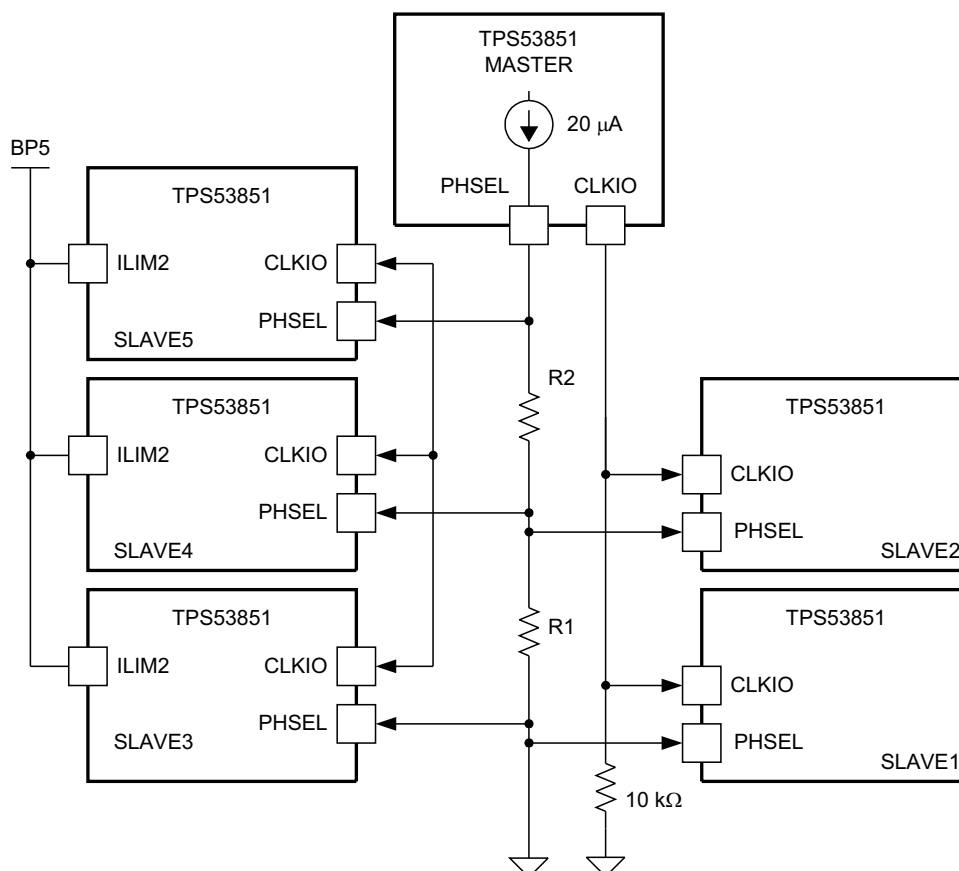
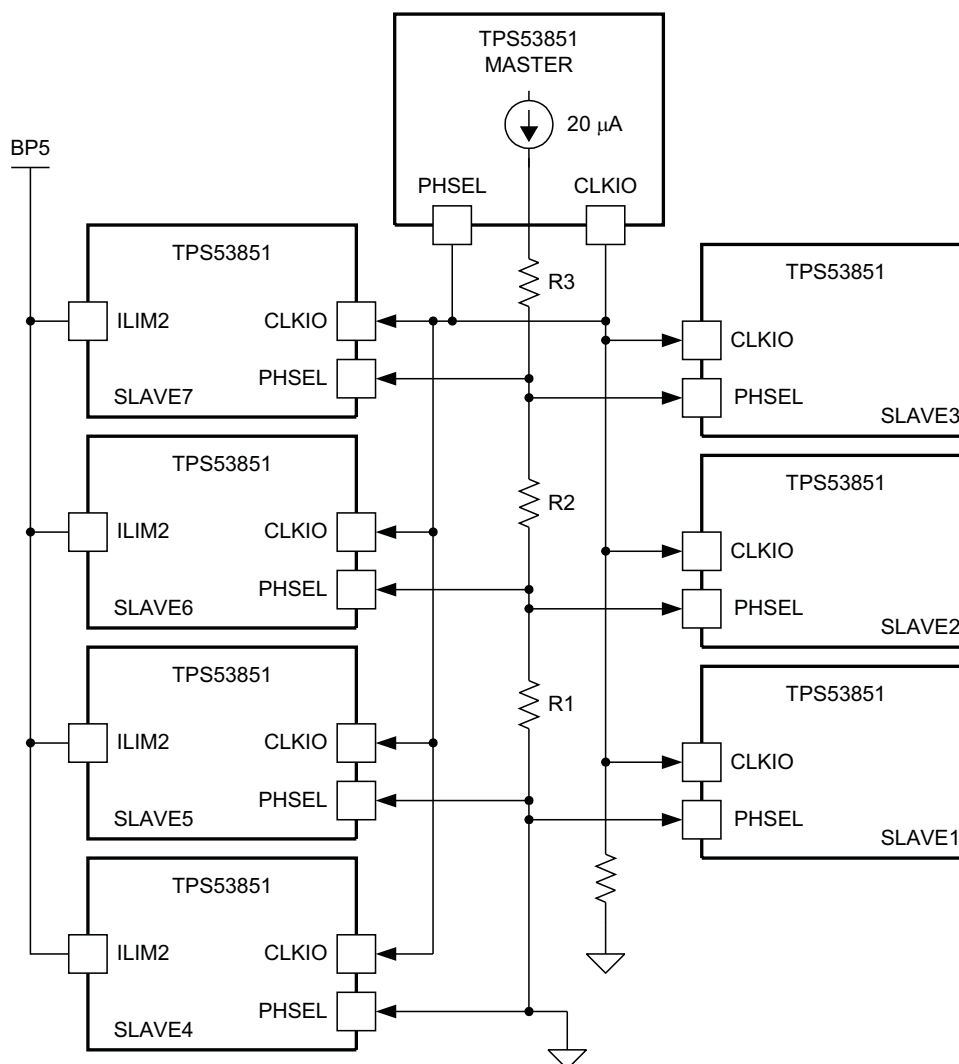
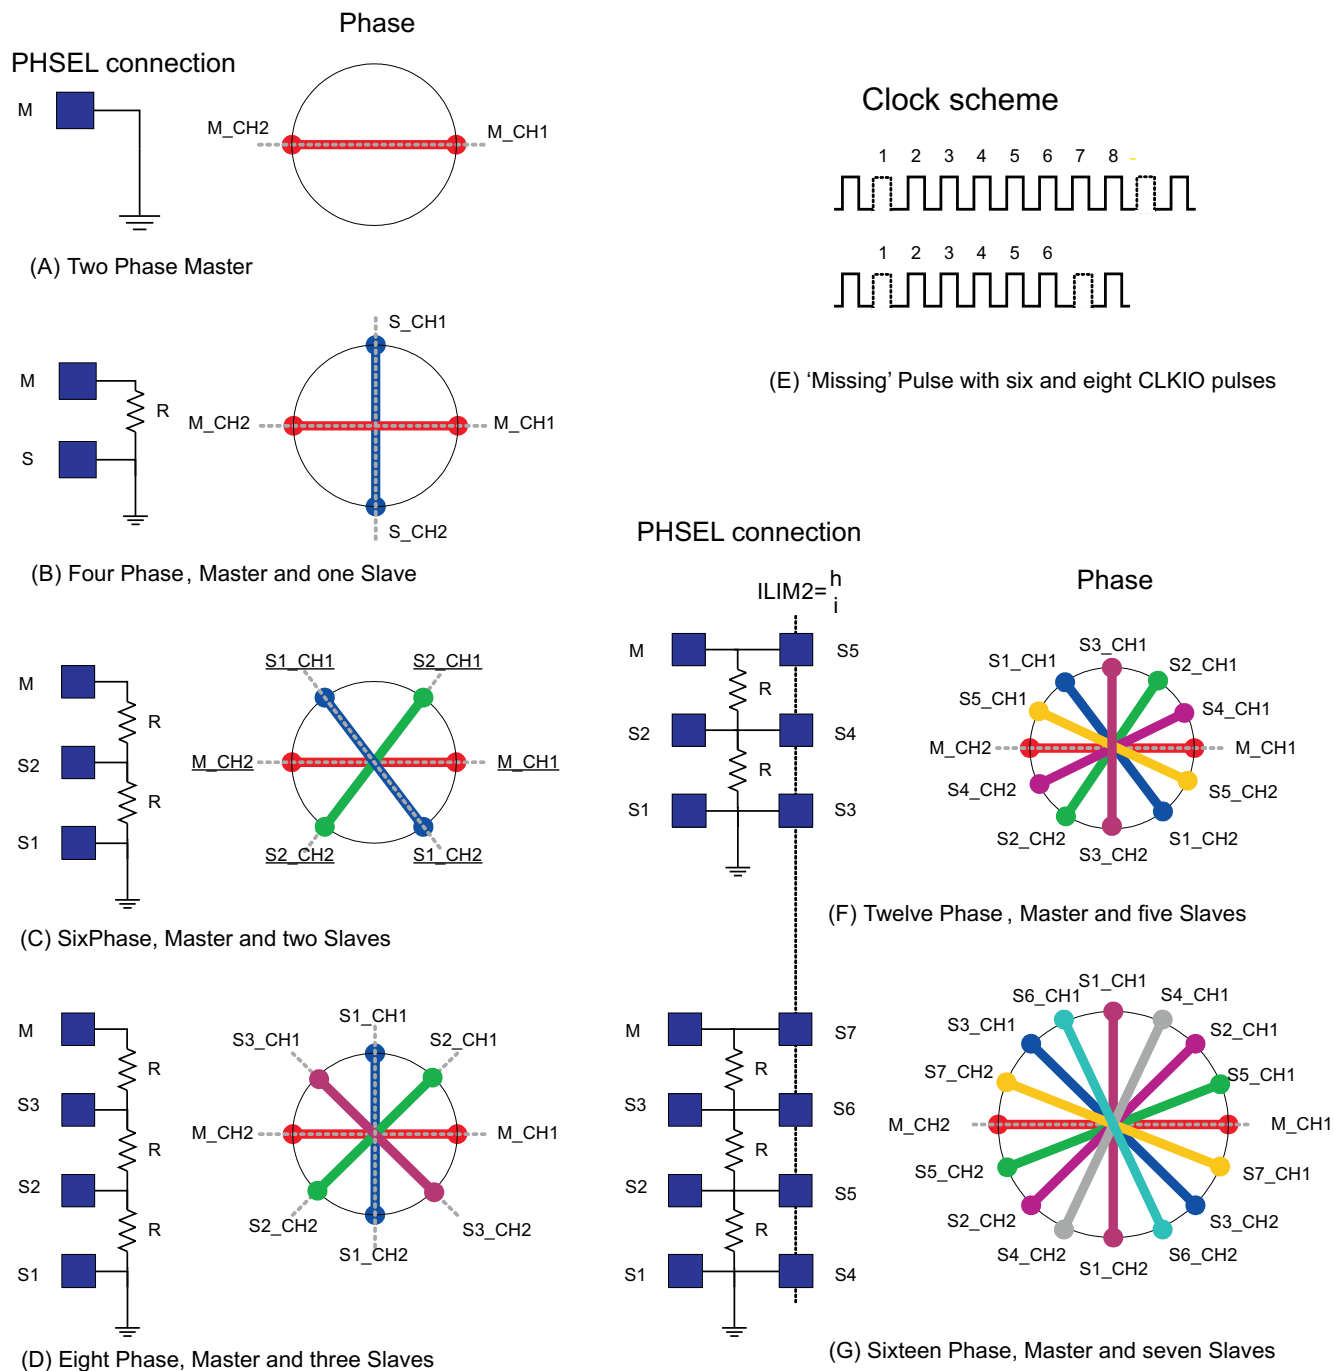

Figure 5-18. Master Controller and Five Slave Controllers, 12-Phases
Figure 5-19. Master Controller and Seven Slave Controllers, 16 Phases
Figure 5-20. Clock Phasing Summary
To further increase the total current capability to twelve phases, or to increase the number of outputs, five slave controllers can be added as shown in Figure 5-18
If four slaves are desired, just delete one of the slaves from Figure 5-18. The interleaving is not perfect because there is a 30° between the master and three slaves. The deleted slave causes 60° between the two adjacent slaves. See Figure 5-20 for phasing details.
To further increase the total current capability to sixteen phases, or to increase the number of outputs, seven slave controllers can be added as shown in Figure 5-19.
In this configuration, the master senses that there are three slave controllers (due to the three resistors) and distributes an eight-phase CLKIO signal. Slave1, slave2 and slave3 are turned on at 45° and 90° respectively as before with three slaves. However, to get sixteen phases with an eight-phase clock, both edges of the CLKIO signal are used to control the slaves. With the ILIM2 tied high on slave4, slave5, slave6, and slave7 they turn on at the rising edge of CLKIO, while the master and slave1, slave2, and slave3 turn on at the falling edge of CLKIO. If six slaves are desired, just delete one of the slaves from Figure 5-19. The interleaving is not perfect because there is 22.5° between the master and three slaves. The deleted slave causes 45° between the two adjacent slaves. See Figure 5-20 for a phasing details.
Figure 5-20 is a summary of the master and slave clock phasing. The master and the slaves can be selected to be a multi-phase, single output configuration and/or several independent output voltage rails, independent of the clocking.
The solid square boxes in Figure 5-20 represent the PHSEL pin of the master (M) controller or a numbered slave controller (S1-S7). The labels on the spokes of the wheels indicate a master Channel 1 and master Channel 2 (M_CH1 and M_CH2) and numbered slaves Channel 1 and slave Channel 2 (Sn_CH1 and Sn_CH2). The Channel 1 and Channel 2 of a given master or slave is always 180° out of phase.
The 3-phase system could also be configured with 1 channel of the master and 2 channels of the slave. Referring to part (B) above, the 3 phases could be master CH1 or master CH2 and slave CH1 and slave CH2. In either of these configurations there is 90° between two of the channels and 180° between the other channel. The unused channel could be another independent output voltage whose clocking would occupy the phase not used in the 3-phase system. This philosophy can be used for any number of phases not shown in Figure 5-20, Clock Phasing Summary.